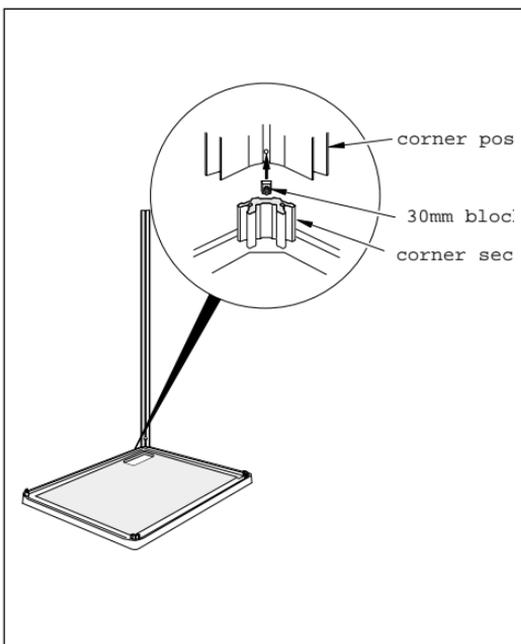

Fig 4.1
Also ensure that the 4 x 30mm blocks are inserted in the bottom of all 4 corner sections before assembly, as Fig 4.1.
2. Fig 4.1-Locate the corner post with large hole at the bottom onto the factory fitted foot section, adjacent to the waste pump position. Secure with the grub screw in block previously fitted (see inset).